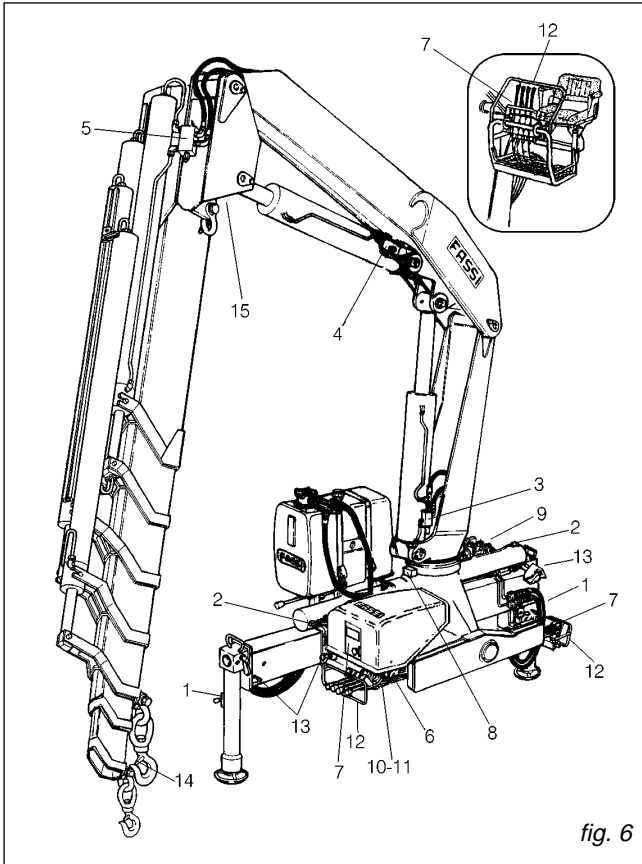

fig. 6
**Crane with ground controls on both sides and with top seat controls by hand cables (on request) (fig. 6).**